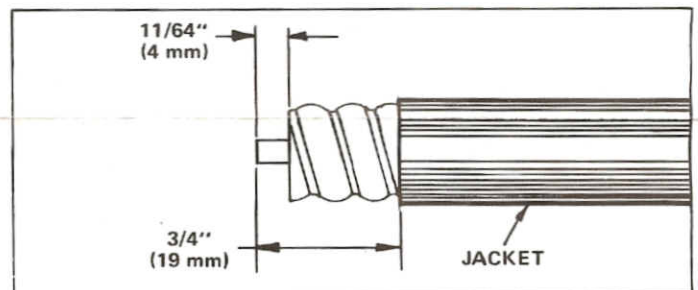
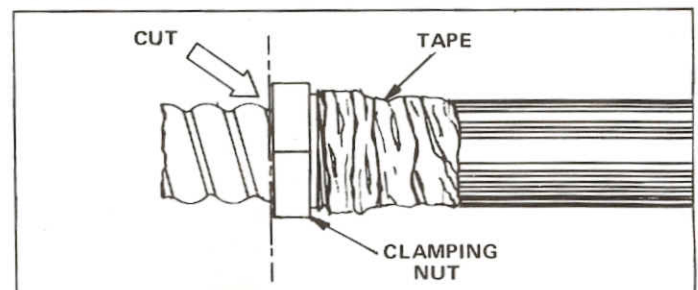

FIGURE 1
FIGURE 1A
**STEP 1.** Prepare cable as shown in Figure 1. End of cable must be square. If it is not, use hacksaw and make new cut. Remove jacket from end of cable per over-all dimension. Use straight-edged piece of paper wrapped around cable to guide jacketing cut. Use knife to remove jacket. Clean outer conductor with solvent. Cut off outer conductor and foam to dimension shown. Clamping nut can serve as cutting guide. See Figure 1A. Make shallow cut around cable. Do not damage inner conductor. Remove tape and clamping nut. Trim foam with sharp knife. Check to see that inner conductor is correct length. Use file to remove burrs from cut edges of conductors. Use small wire brush to remove copper particles from foam. For 44AGR, continue with Step 3.